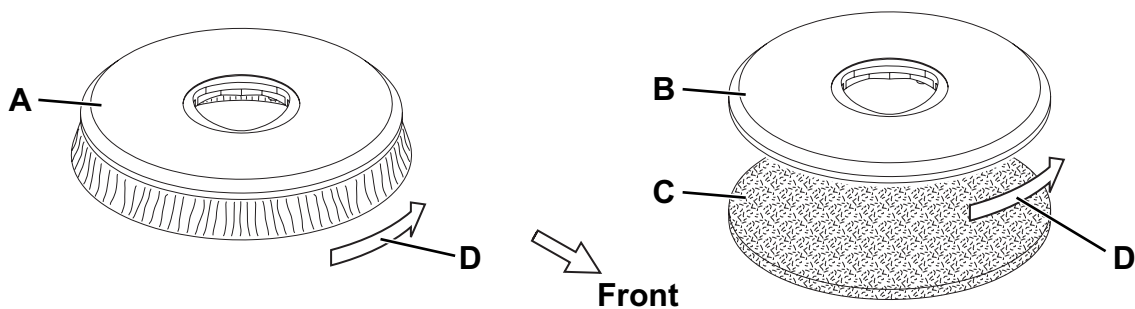

Figure 1
Install either the brush (A, Fig. 1) or the pad-holder (B and C) according to the type of floor to be cleaned.
1. Lift the brush/pad-holder deck (12) by prying the handlebar (1).
2. Place the brush (A, Fig. 1) or the pad-holder (B and C) under the deck (12).
3. Lower the deck (12) by using the handlebar (1).
4. Turn the knob (32) on one of the indicated programs.
5. Press the enabling push-button (39) together with the brush levers (40) to engage the brush/pad-holder.
6. Switch off the machine by turning the knob (32) to "0".
7. Slightly lift the machine deck by prying the handlebar (1), then manually release the brush/pad-holder from the hub, by turning it abruptly in its normal rotation direction (D, Fig. 1).